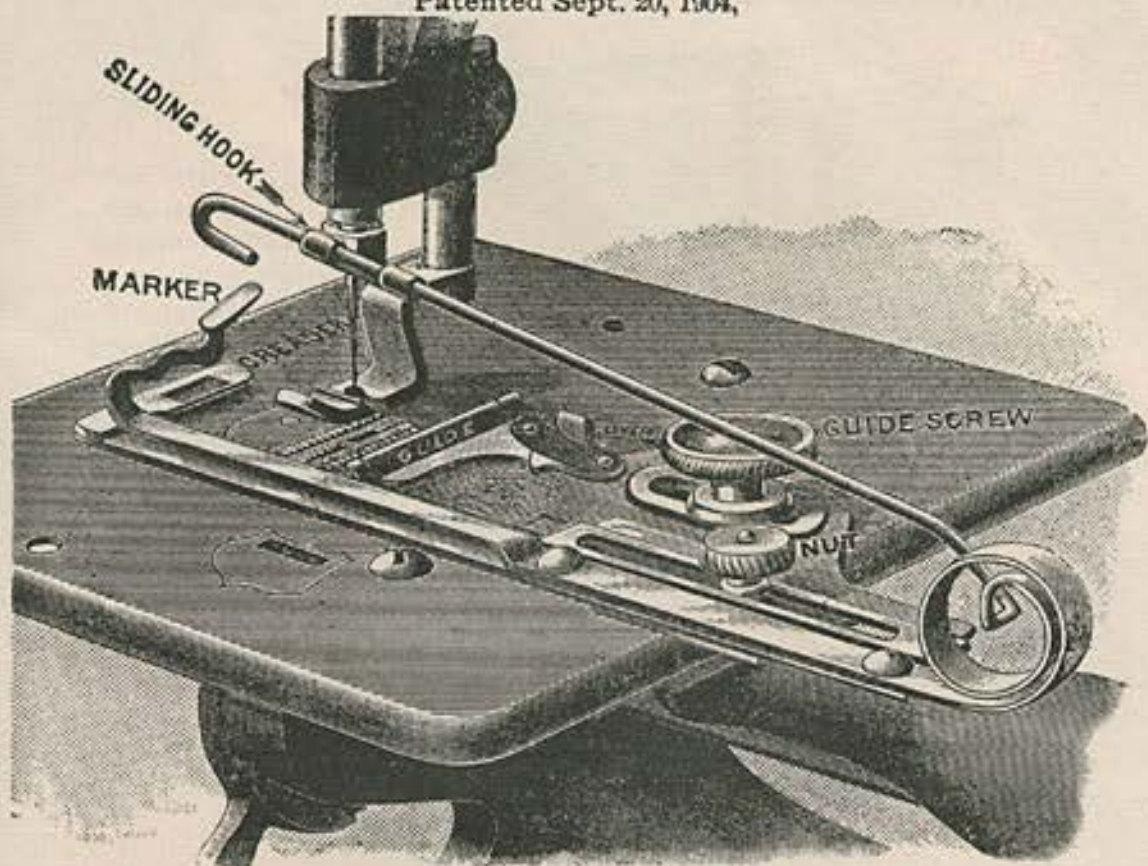

Fig. 1—Shows Guide adjusted for Wide Tucks.
Place the Tuckmarker on Machine as shown in Fig. 1, using Guide Screw of Machine to fasten it.
**WIDE TUCKS.**—Close opening in Guide by swinging movable part of Guide to left, then lock it by pushing small Lever to left. See Fig. 1.